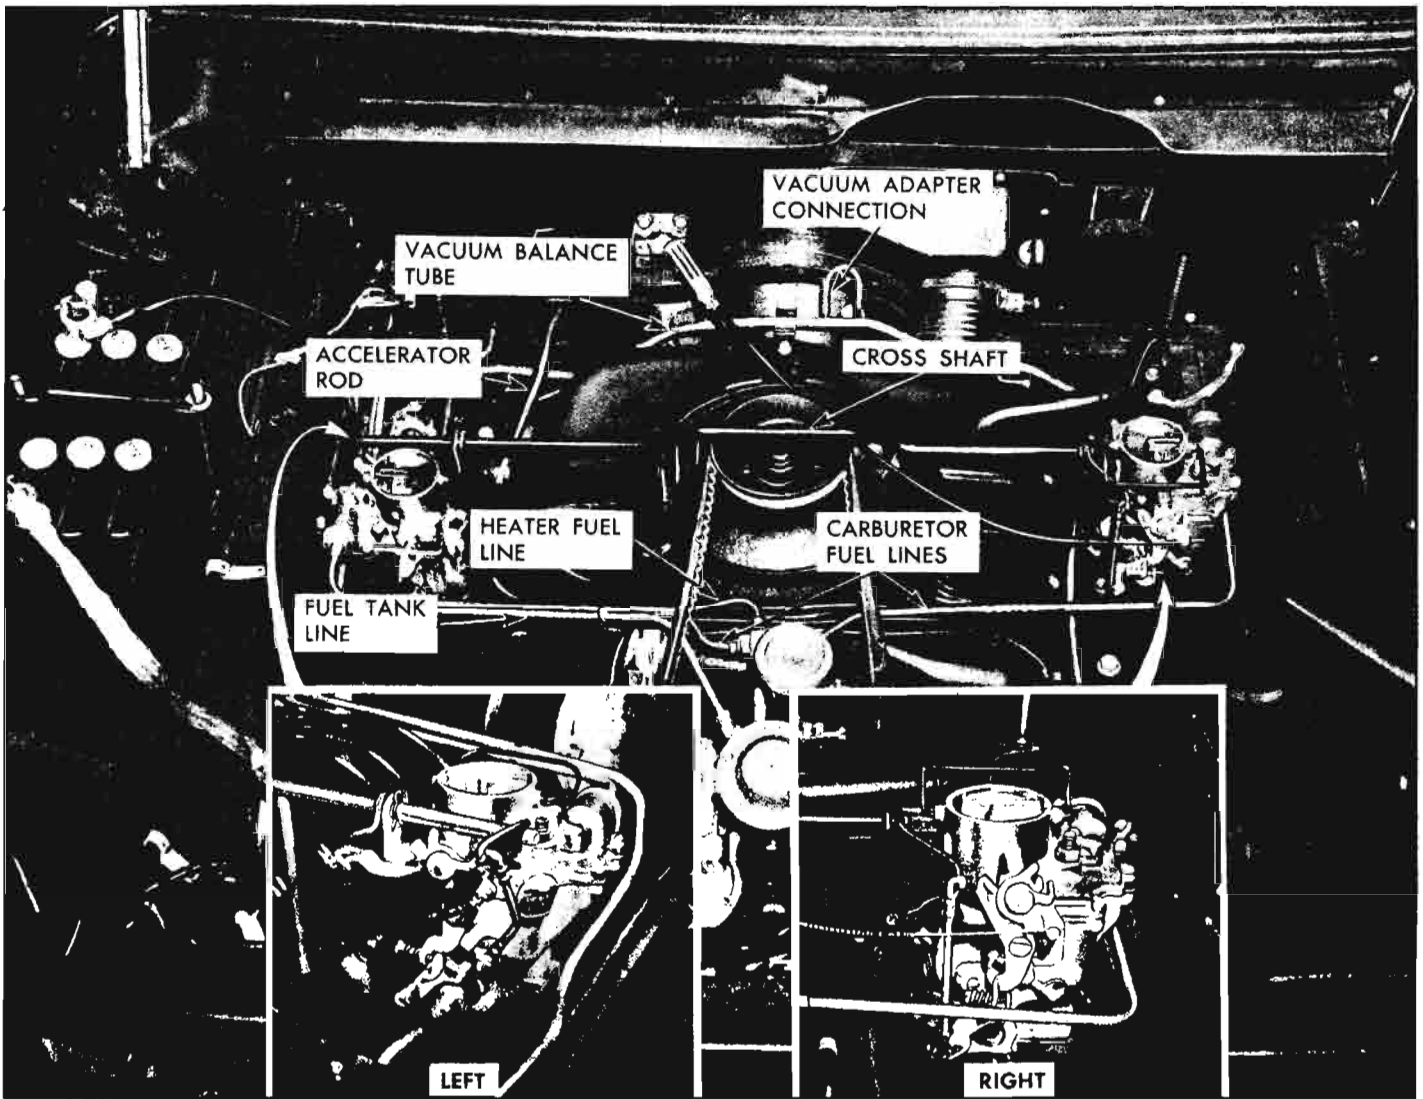

Fig. 9-11—Cross-Shaft and Linkage to Carburetors
- b. **Left Carburetor**—Rotate carburetor cross shaft (with accelerator rod—fig. 9-11) to ensure positive closing of the right carburetor throttle valve. Adjust throttle rod length in swivel until rod freely enters hole on carburetor cross-shaft lever and secure rod with retainer clip.
- c. Connect vacuum gauge to adapter (fig. 9-11) on vacuum balance tube. (Remove transmission vacuum line on automatic transmission and cap on synchromesh from balance tube adapter.)
- c. Move accelerator rod (fig. 9-11) to obtain 1200 rpm (all transmissions in neutral).
CAUTION: When making linkage adjustments, accelerate engine by moving accelerator rod only (fig. 9-11). Do not open throttle by grasping other portions of linkage or this may upset geometry and synchronization.